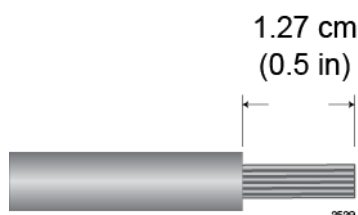

Figure 134. Stripping the Power Wires
1. Prepare adequate lengths of two stranded 8 AWG power wires by stripping them as shown in Figure 134.